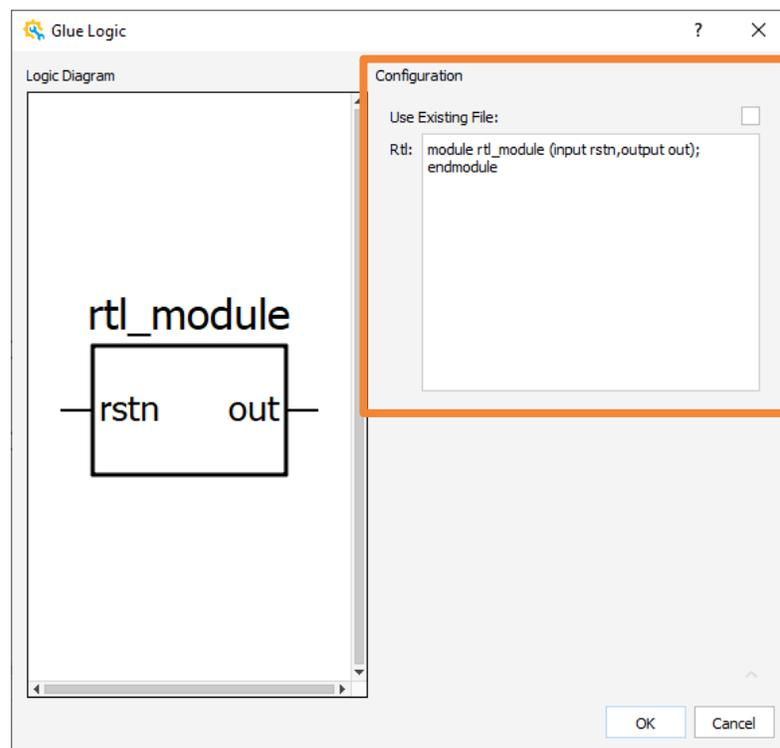

Figure 2.28. Glue Logic Wizard for RTL Module
1. From the IP Catalog, select the RTL module. Double-click the RTL module or drag and drop the RTL module to the Schematic view. A Glue Logic wizard (Figure 2.28) pops up.